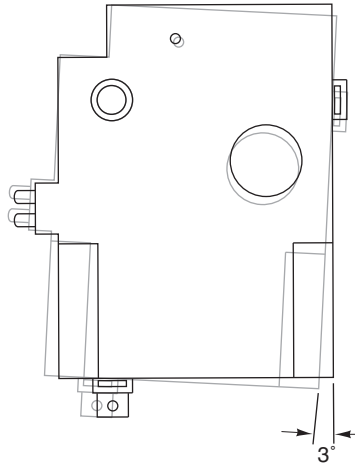

Figure-4 CW Mounting.
1. Turn damper shaft to full closed (CW) position.
5. Rotate controller CCW about three degrees off centerline of VAV terminal and tighten output shaft set screws to 60-70 in-lb (6.8-7.9 N-m). See Figure-4.